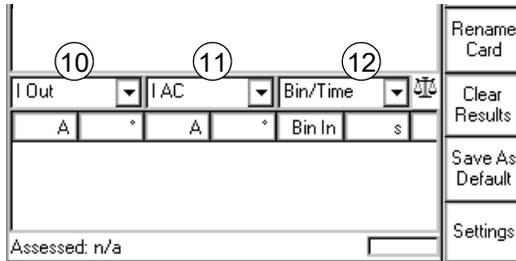

Figure 9-5: Step 3 - Specify the values that the measurement table will show
- ⑦ • The availability of the trigger signals depends on the selected values set at ⑩ and ⑪ of the measurement table (refer to Figure 9-5).